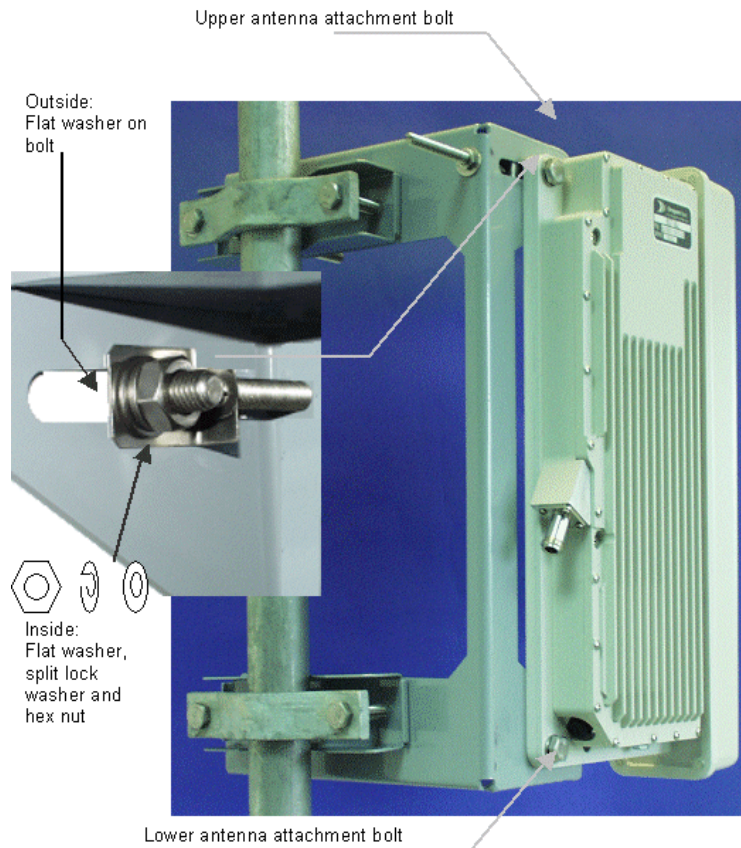

Figure 5-8: Attaching the BS 28 GHz ODU to the Assembly
1. Referring to Figure 5-8, assemble the BS 28 GHz ODU to the antenna mounting bracket using: